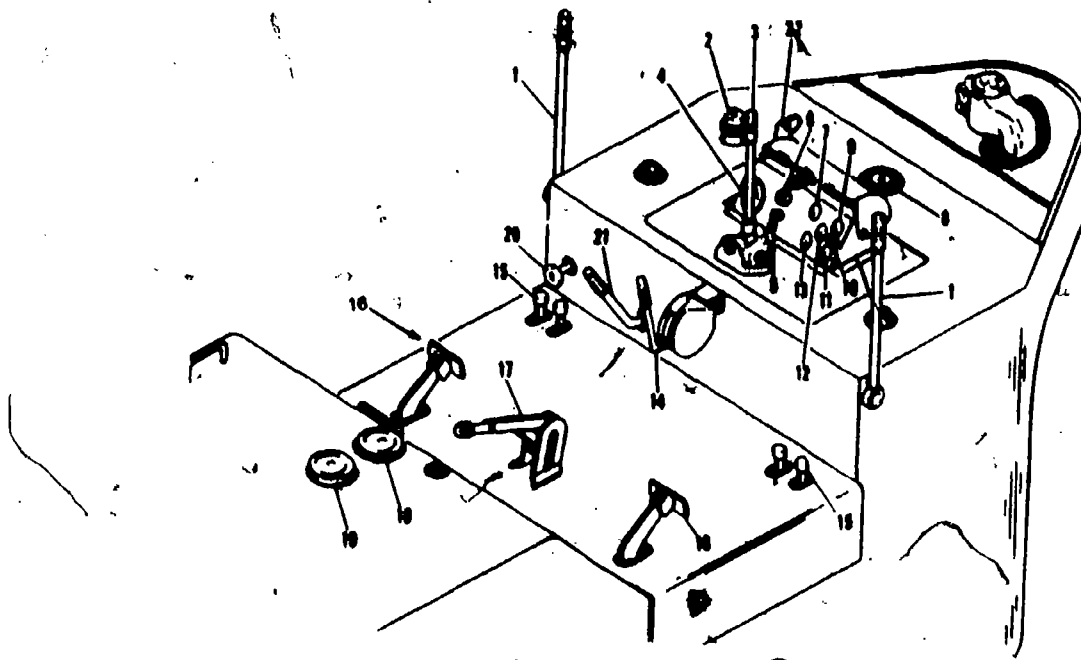

Fig 6-1. Huber-Warco model R6760M 5- to 8-ton tandem road roller.
a. General. Rollers are used mainly for compacting road and airfield subgrades and for compacting and smoothing paving materials other than portland cement concrete. A smooth-steel roller is used for both compacting and smoothing. The 2-axle tandem roller (fig 6-1) has a single large-diameter drive roll at the front and a single smaller-diameter guide roll at the rear. Rollers usually weigh from 5 to 8 tons. Tandems are the best machines for initial and finish rolling of cold-laid bituminous paving and for finish rolling of hot-laid bituminous paving. Finish rolling with a 2-axle tandem requires lengthwise, diagonal, and crosswise rolling. Tandems may also be used for compacting thin layers of soil. They should not be used for compacting base courses of hard, angular material because their roll surfaces are easily dented.
- (1) **Ballasting.** Most power rollers with enclosed, drum-type rolls can be ballasted for additional weight by filling the rolls with sand, water, or a combination of sand and water. Sand is the least desirable method due to the difficulty of putting it in and removing it. Antifreeze must also be used in the water in cold climates since the rollers will burst if water is used and freezes. A 2-axle tandem which weighs 5 tons empty will weigh about 8 tons when ballasted with water.
- (2) **Scrapers.** On most smooth-steel power rollers, each roll is equipped with a pair of scrapers. When the scrapers are set, they are held in light contact with the roll surface, so that they scrape off material which would otherwise build up and mar the rolled surface. When desired, the scrapers can be locked out of contact with the roll.
- (3) **Sprinkler systems.** To prevent certain types of materials from sticking to the roll surfaces, moist roll surfaces are required. Most power rollers are equipped with sprinkler systems for this purpose. A sprinkler system consists of a water tank, from which water is piped to a cocoa mat (brush-like device) on each roll. The sprinkler system is used for operating on black top or hot-laid bituminous surfaces.
b. **Operating controls.** The controls and instruments are shown in figures 6-1 and 6-2. The machine is powered by a GMC 2-cylinder diesel engine which is equipped with the customary diesel engine instruments and controls. These are: the ignition switch, ammeter, fuel oil-pressure gage, emergency stop lever, and the engine throttle lever (14, fig 6-2).